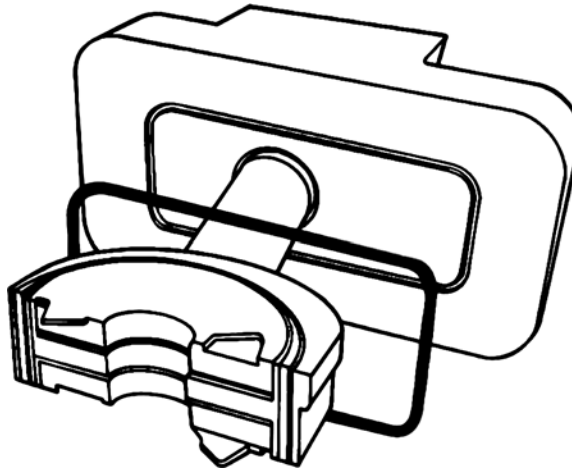

Figure 4-2. Remove Door Seal
- a. Remove the door seals (see Figure 4-2).
3. Remove the door seal from its seat (see Figure 4-2 on page 4-5).